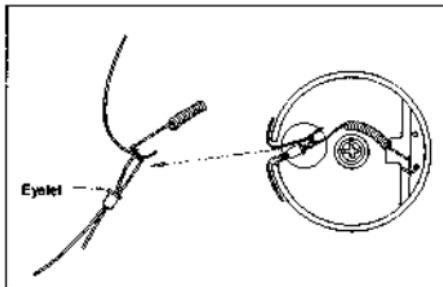

Fig. 2-9
- Pull the dial cord taut and wrap 2 1/2 turns around the drive drum, starting at the rear edge. Pass the cord through the slot and attach the spring and eyelet as shown in Fig. 2-9.